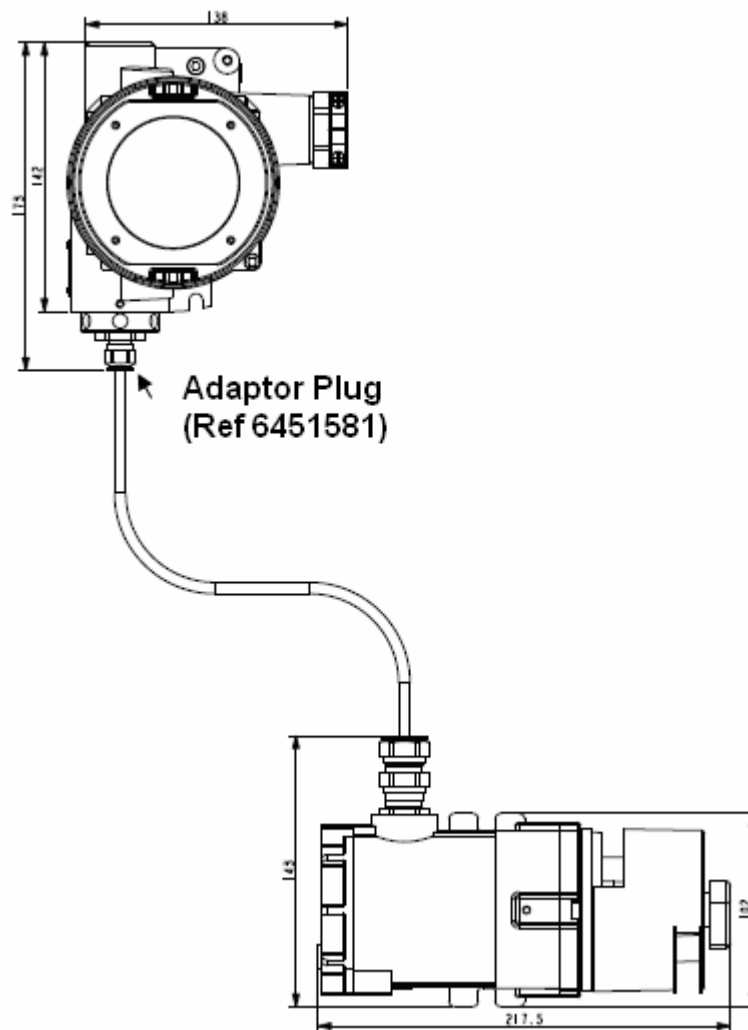

Figure 8: Dimensions of the OLCT60D/OLCTIR version
1. Unplug the adaptor plug (cf. figure 8).